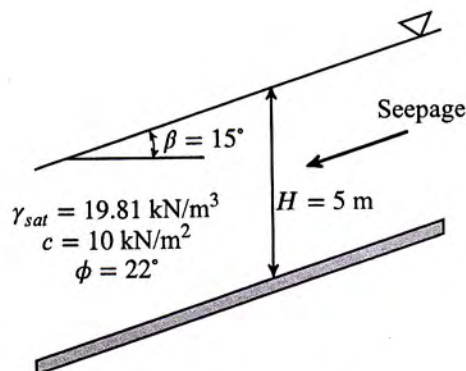

Figure 3: Question 2 (b)
2. (a) Derive an expression for the factor of safety (F_s) of an infinite slope without seepage. (6)
- (b) For the infinite slope shown in the following figure (Fig. 3), determine: (2 + 2 = 4)